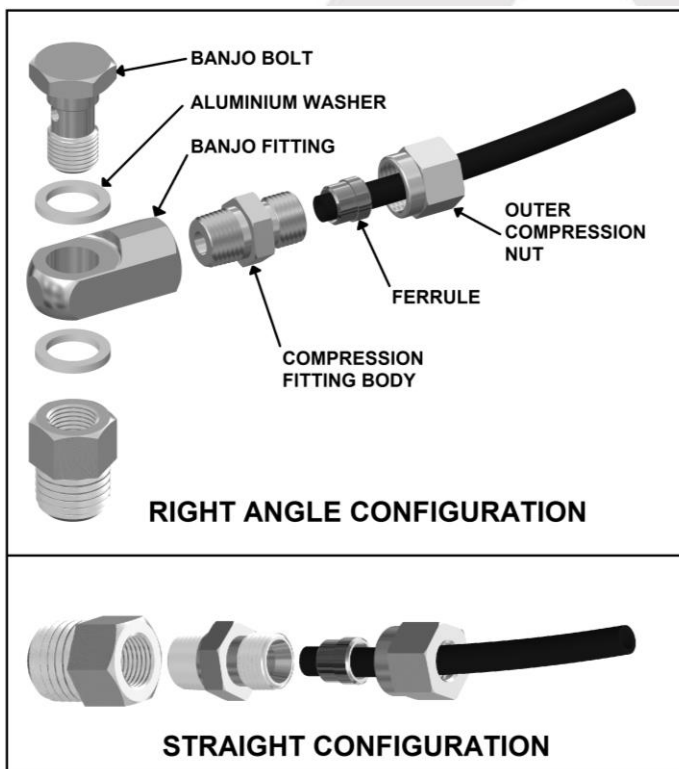

Figure 23.
- Assemble an aluminium washer onto the banjo bolt and insert through the banjo fitting. Assemble second aluminium washer and tighten into bulkhead fitting using a 14mm [9/16"] spanner. (Fig.23.)
- Insert the outer compression nut and ferrule over the air line. Ferrule should be orientated as per Fig.23.
NOTE : When right angle routing of the tube is not required, screw the compression fitting body straight into the bulkhead fitting body (Fig.23.).